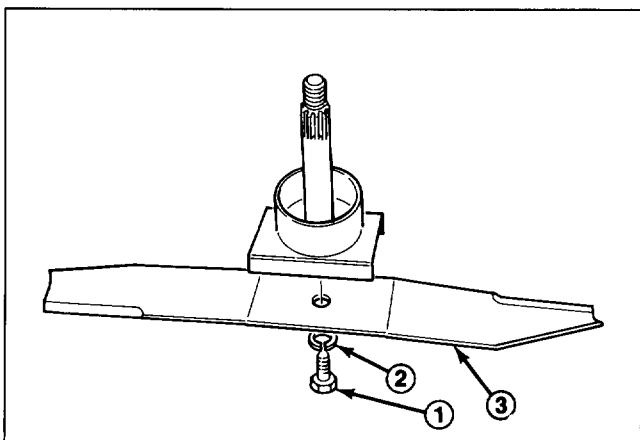

Figure 15
Note: Account for the two thrust washers (Fig. 15).
1. Grasp end of blade using a rag or thickly padded glove. Remove bladebolt, lockwasher and blade from spindle shaft (Fig. 15).